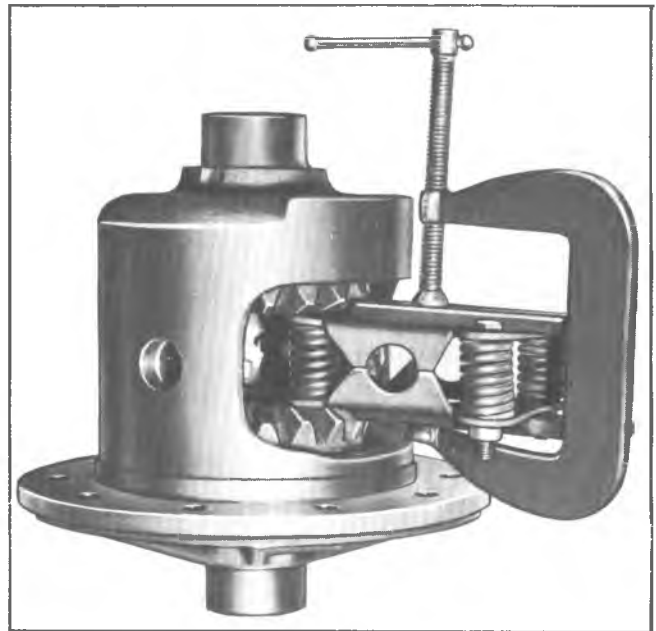

Fig. 12D—Spring Pack Compressed for Installation
15. **For all except Corvette** assemble springs in spring retainer and clamp assembly in vise. Install "C" clamp and bar stock on spring retainer then install a 1/4 inch bolt and nut in each front spring. See Figure 12D.